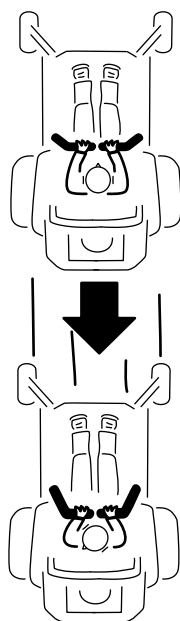

Figure 21
- 2. To go backward, slowly pull the motion-control levers rearward (Figure 21).